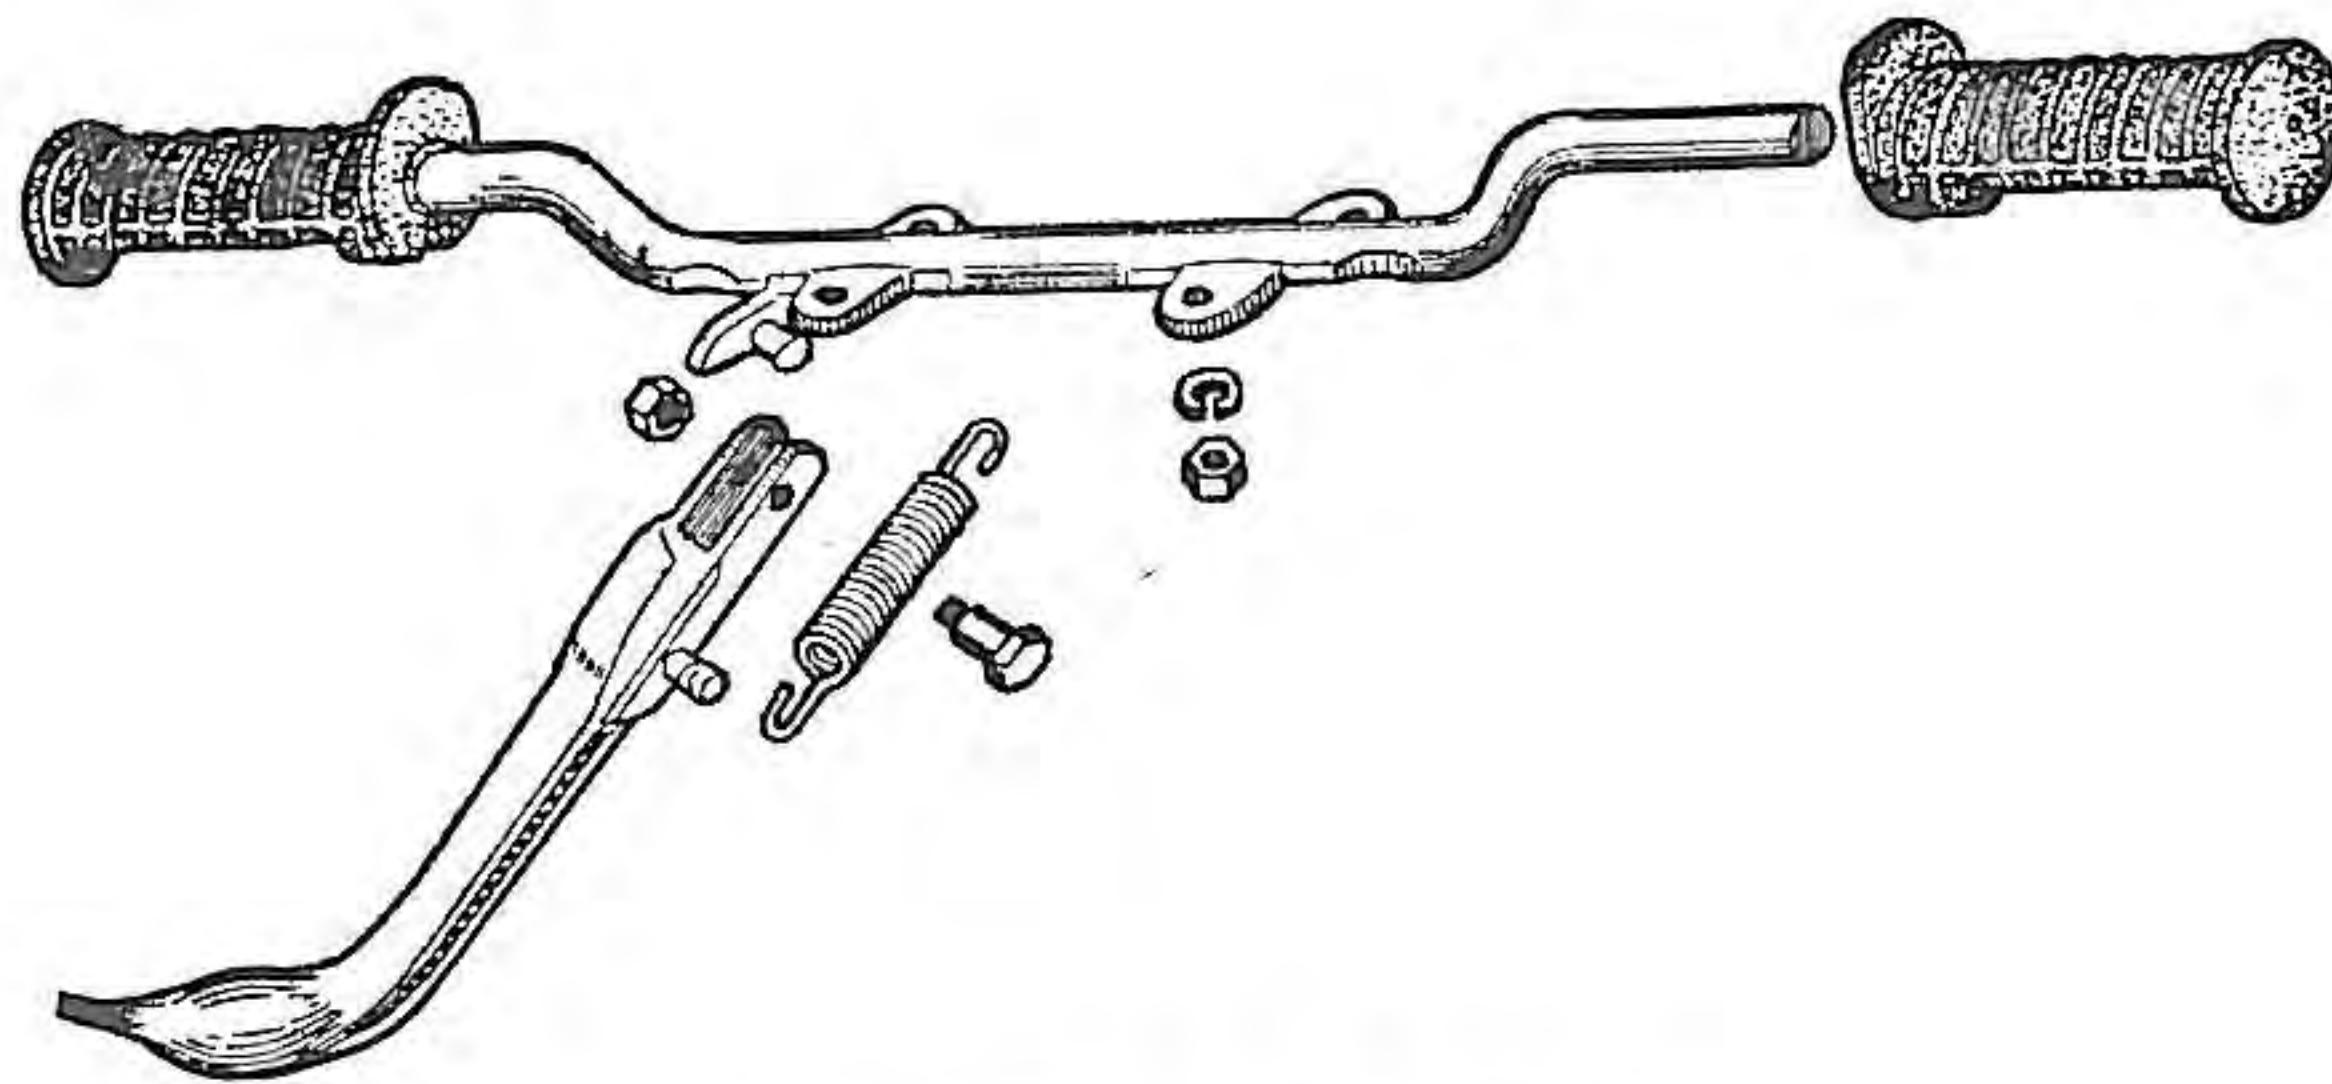

Fig. II-45. Footrests (C92 & CA95)
- (1) The step bar and step plates can be removed by taking out the bolts after the mufflers are removed. (Fig. II-45, II-46)